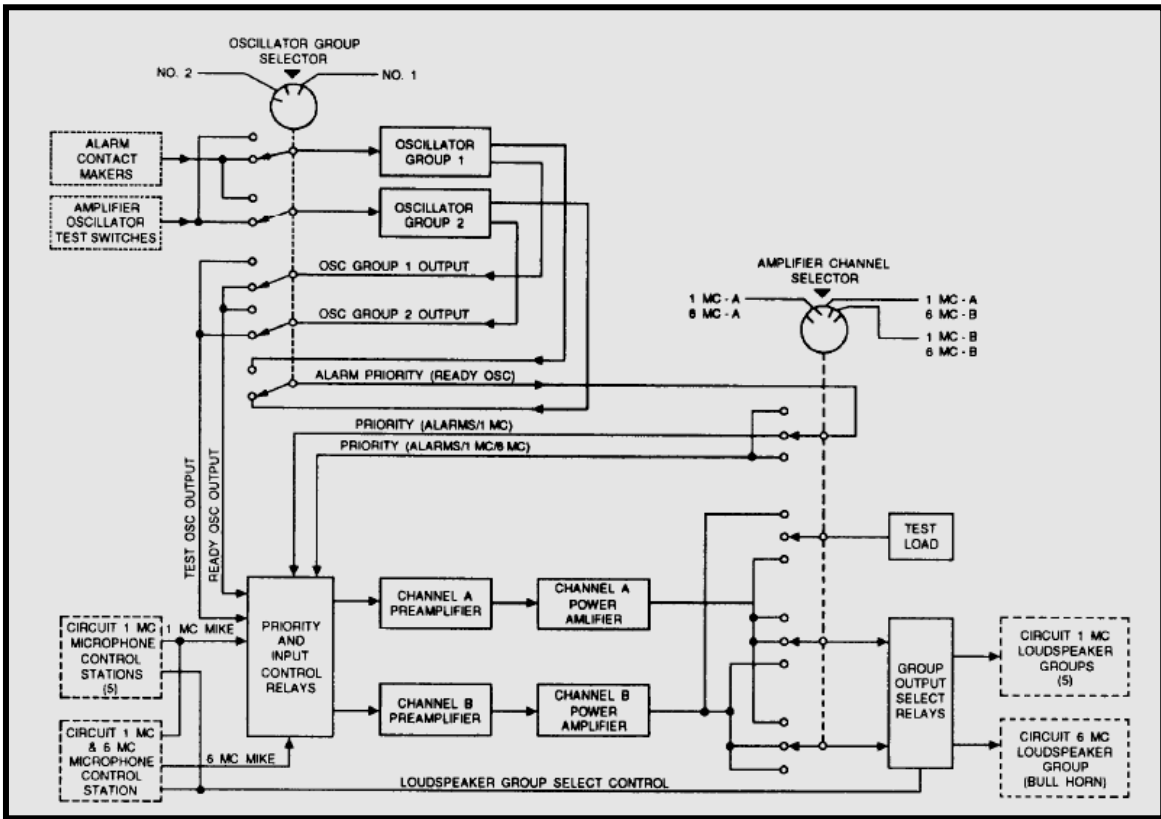

Figure 7-17.— Simplified system switching diagram.
**AMPLIFIER CHANNEL SELECTOR SWITCH.**— Three choices of channel operation are available in this system: (1) 1MC-A/6MC-B, (2) 1MC-A/6MC-A, and (3) 1MC-B/6MC-B. Selection is accomplished by operation of the AMPLIFIER CHANNEL SELECTOR switch. Channel A is normally used for circuit 1MC operation, and channel B is normally used for circuit 6MC operation. Should one channel fail during operation, the switch can be positioned to the operational channel, thus putting both circuit 1MC and circuit 6MC on the same channel. Under this condition, however, circuit 1MC has priority over circuit 6MC. Figure 7-17 is a simplified system switching diagram showing the AMPLIFIER CHANNEL SELECTOR switch in the 1MC-A/6MC-B position.